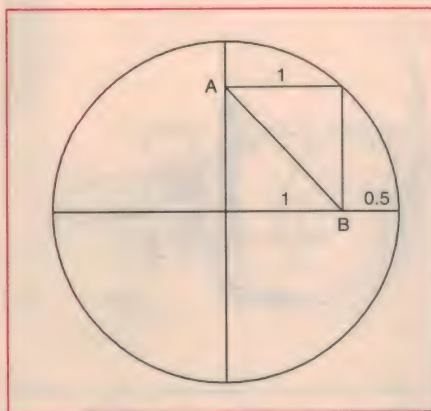

Fig.3: Find the length of line A-B.
*What is the length of line AB in Fig.3?*